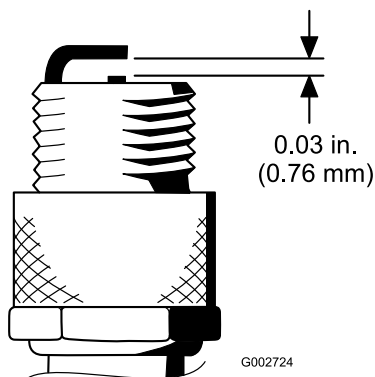

Figure 52
- Set the air gap between the center and side of the electrodes at 0.030 in. (0.76 mm) (Figure 52).